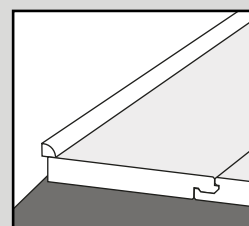

Fig. 8
- Once the floor is installed, remove the spacers; sweep the floor with a soft brush. Fix the skirting/base boards or suitable edge trim (available from your local distributor) to cover the expansion gaps. These should be attached to the wall and not the floor, such that the product remains free to expand (Fig. 8 & 9).